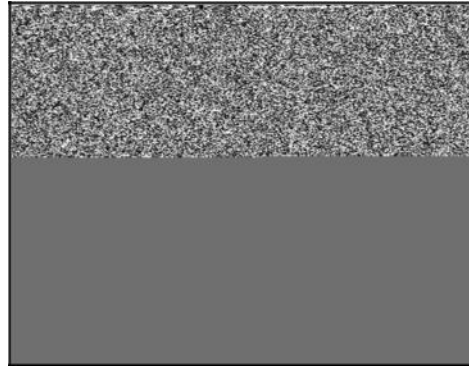

Figure 9
3. Using Ring Compressor Tool #19070 or #19230, install piston with notch or arrow (**A**, Figure 9) toward flywheel side of engine, taking care not to damage crankpin journal or connecting rod bearing.